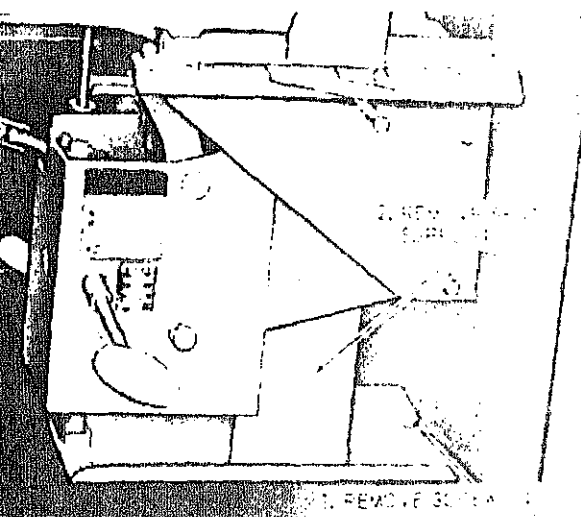

Figure 4-50. Seat support, removal and installation.
(1) Remove capscrew and flat washer securing operator's seat belt and backrest to shell. Remove capscrew securing seat cushion to shell. Remove capscrew and nut securing shell to seat support. Remove passenger's seat in a similar manner.
(2) Remove seat support as illustrated in figure 4-50.
e. Installation. Install seat support as illustrated in figure 4-50. Install seats and seat belts in reverse order of a above.